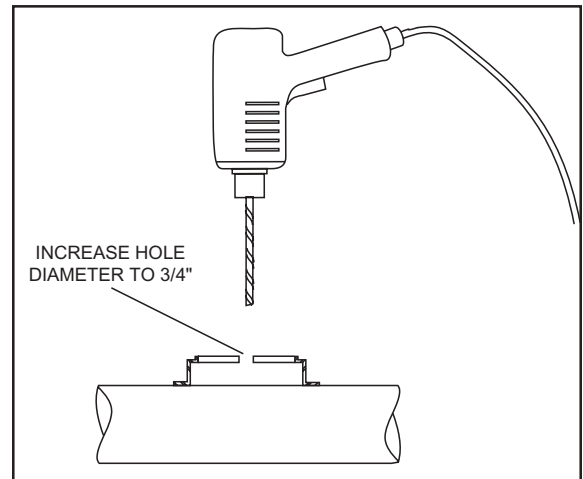

Figure 2
3. A 3/4" access hole must be made for the valve stem. Using the template, cut out the circle which best fits your model to center punch the lower spring seat for the hose/stem access. Drill a 3/4" hole, or enlarge existing hole, in the center of the lower spring seat. Remove all burrs and sharp edges (Figure 2).